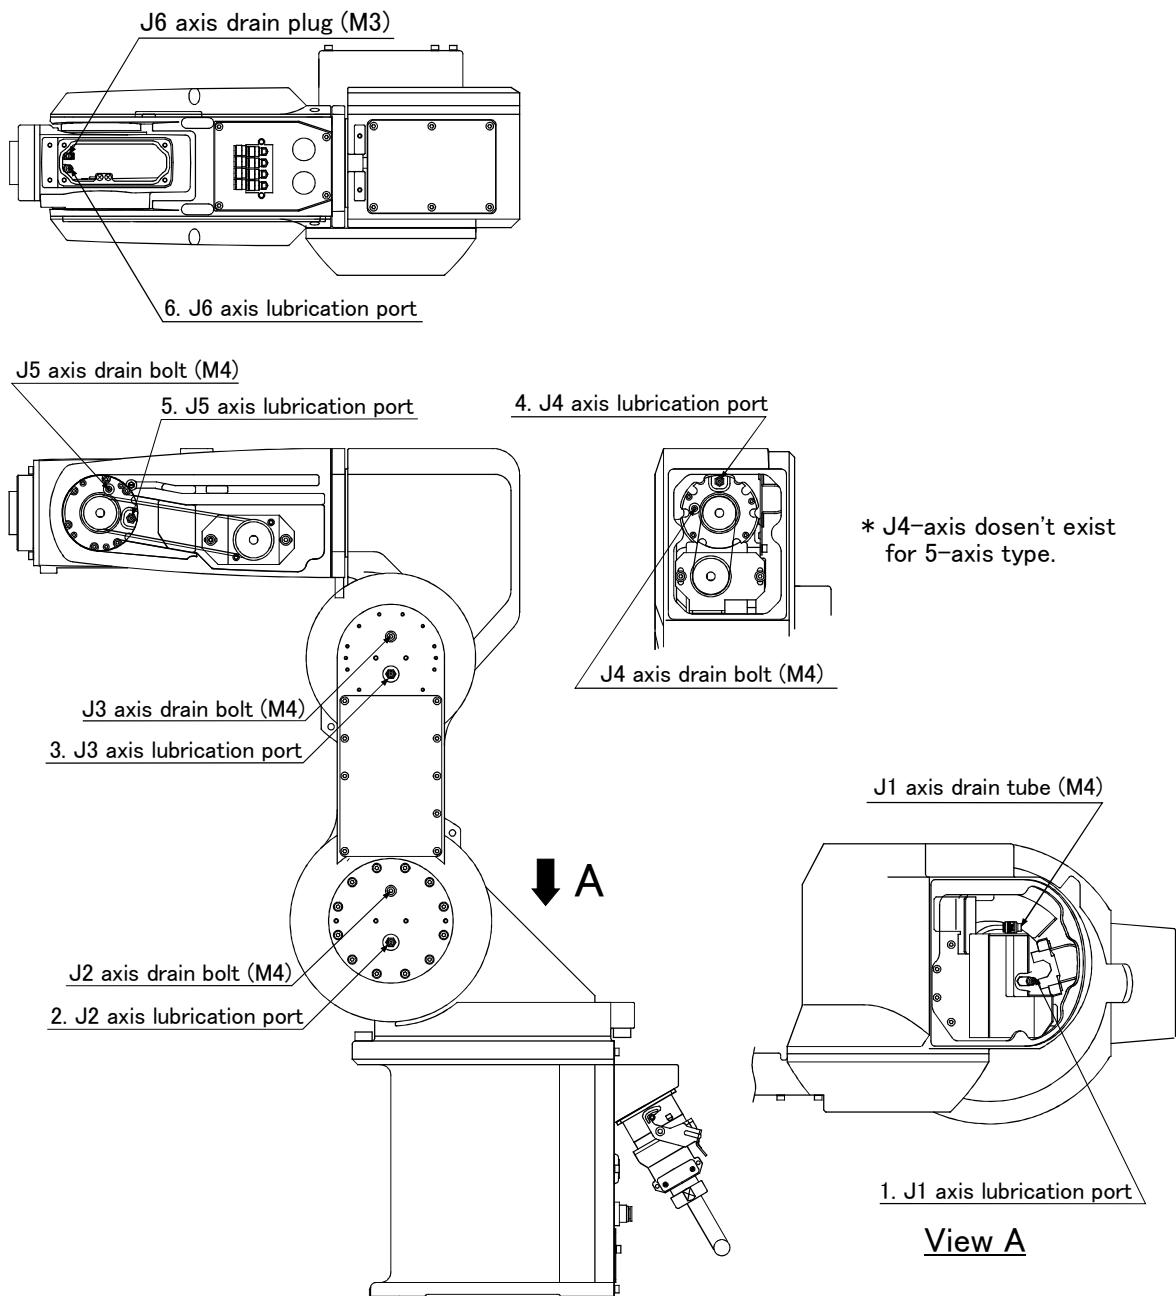

Fig.5-9 : Lubrication positions
The grease nipple position is shown in Fig. 5-9. The lubrication specifications for each place are shown in Fig. 5-9. [Caution]
- The numbers in the Table correspond to the supply positions in Fig. 5-9.
(2) Lubrication method
- 1) Set the robot to the posture shown in Fig. 5-9.